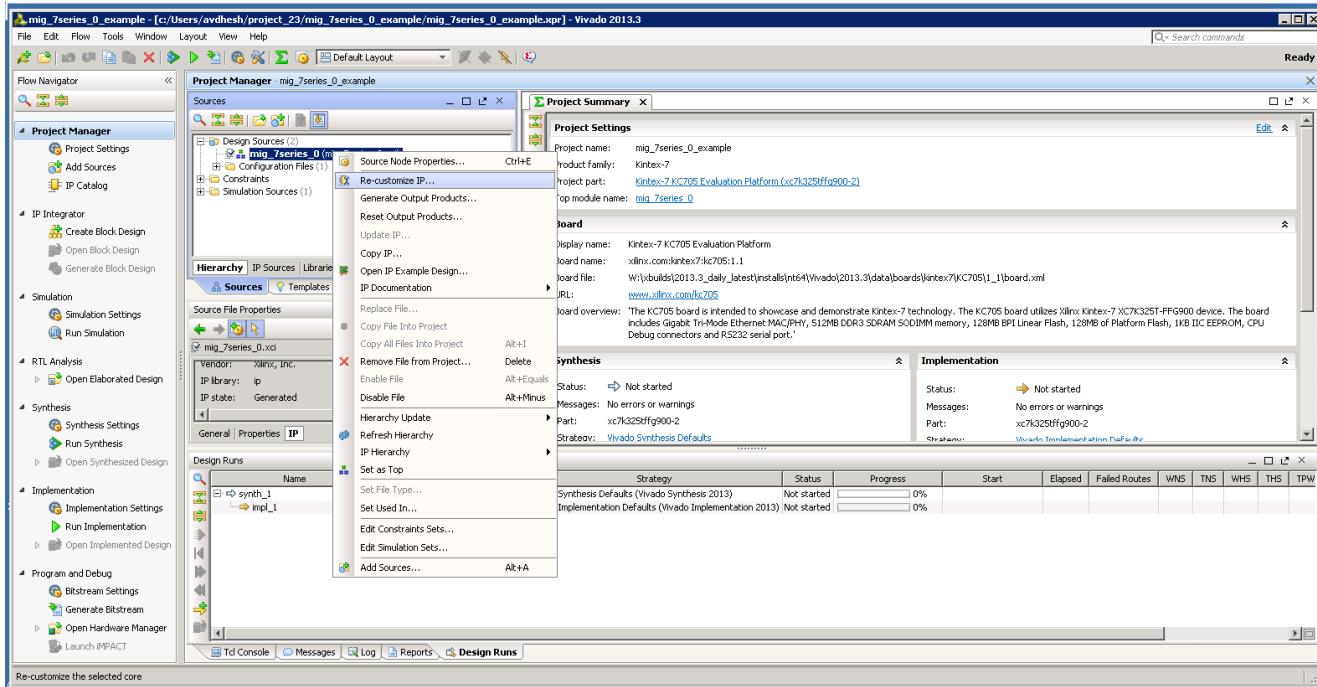

Figure 2-37: Recustomize IP
- Recustomization of the MIG IP core can be done by using the **Recustomize IP** option. It is not recommended to recustomize the IP in the example\_design project. The correct solution is to close the example\_design project, go back to original project and customize there. Right-click the XCI file and click **Recustomize IP** (Figure 2-37) to open the MIG GUI and regenerate the design with the preferred options.